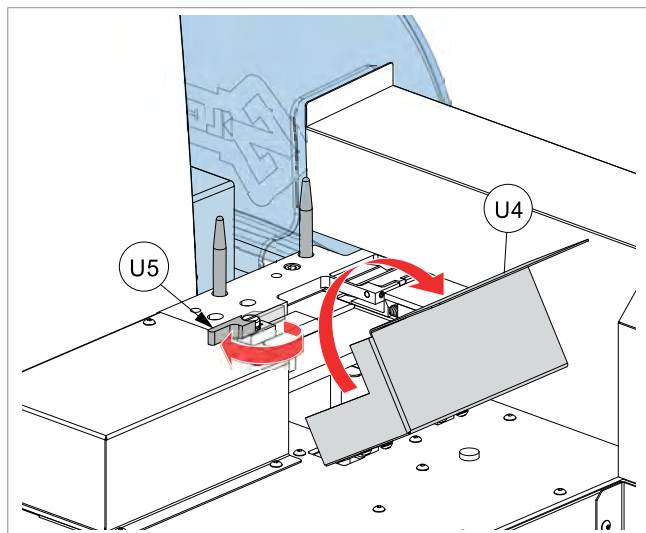

Fig. 36
- 1) Rotate the shield (U4) (Fig. 36).
- 2) Open the lever (U5) completely (Fig. 36).